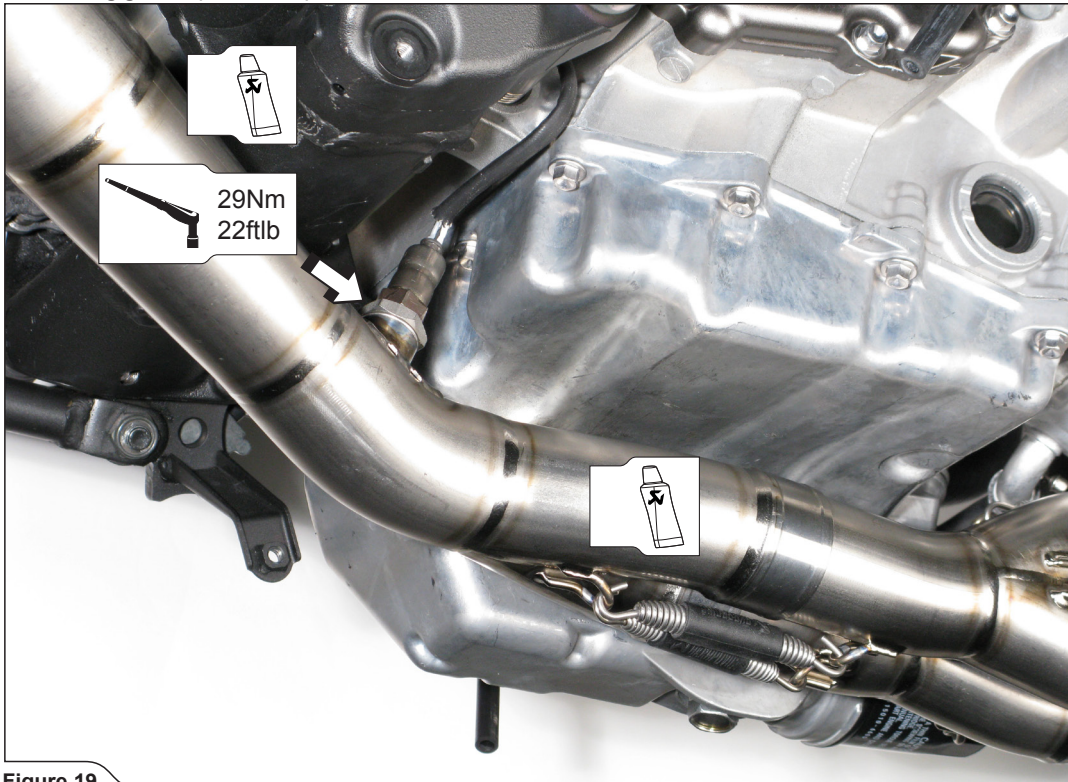

Figure 19
7. Slide the link pipe onto the collectors, attach the springs and tighten the lambda sensor into the link pipe (**Figure 19**).